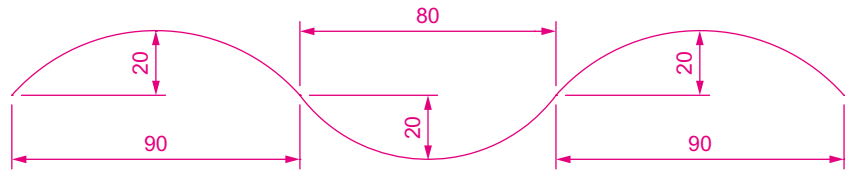

Fig. 14.31 First example – 3D Surface – polyline to be extruded
1. In the **ViewCube/Top** view, on a layer colour **Magenta**, construct the polyline (Fig. 14.31).